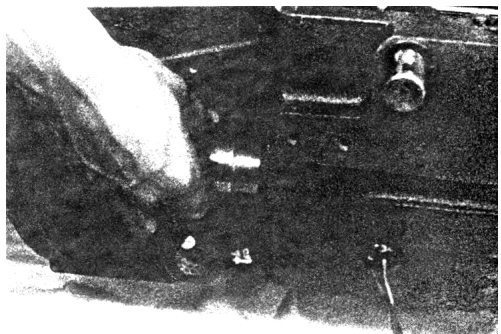

Fig. 3-17
(5) Remove the shaft arm (See Fig. 3-17).